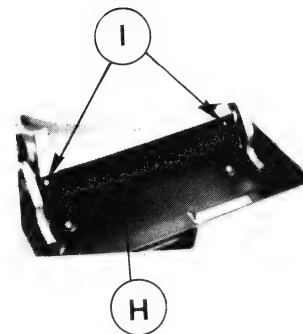

Figure 4.2.4a
- Remove cover H (unscrew two screws I Figure 4.2.4a)